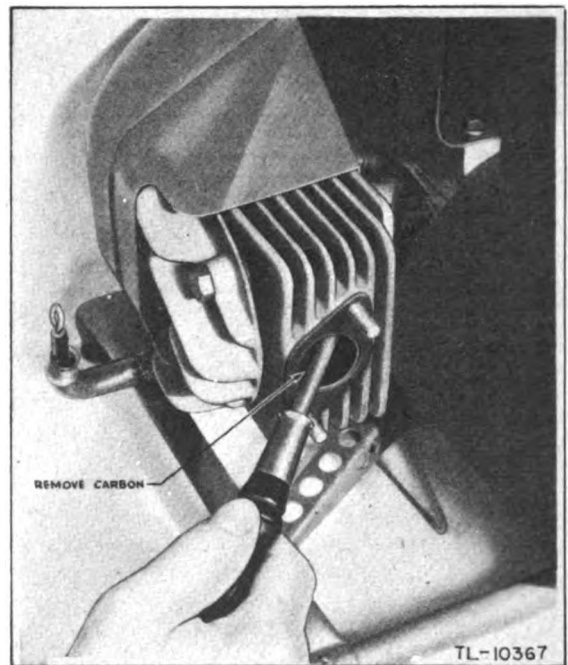
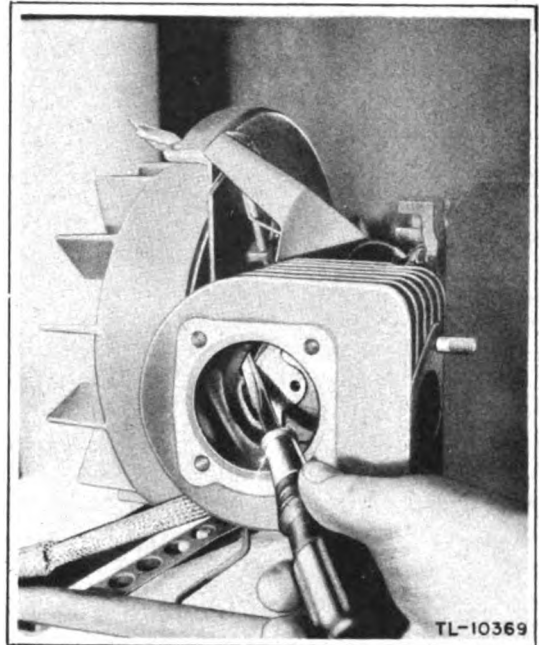

Figure 76—Carbon Removal—Exhaust Ports
Figure 78—Carbon Removal—Intake Ports
- (1) Remove spark plug to avoid pulling against compression when turning engine over by hand.
- (2) Remove muffler.
- (3) Turn engine over by hand until piston reaches bottom dead center. Examine exhaust ports.
- (4) Remove carbon and lead deposits in exhaust ports with a screwdriver or similar instrument. See Figure 76. Be careful not to damage the piston when removing carbon from ports.
(5) If carbon is found in the exhaust ports, thoroughly check the piston, intake ports, and cylinder head as follows:
- (c) Scrape off carbon and lead deposits from cylinder head, inside of cylinder, and top of piston. Use a screwdriver or knife. (Fig. 78)